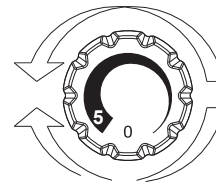

Fig. 2
- The temperature adjustment of both compartments is effected by rotating the thermostat knob (Fig. 2).